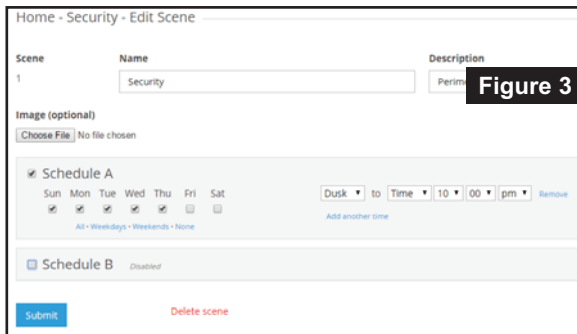

Figure 3
As you can see in **Figure 3**, it is possible to have two different Schedules (A and B) for each scene. For example, one might want security lights to stay on longer on Friday and Saturday nights.
2. Click the red **Delete scene** link (**Figure 3**). Confirm.